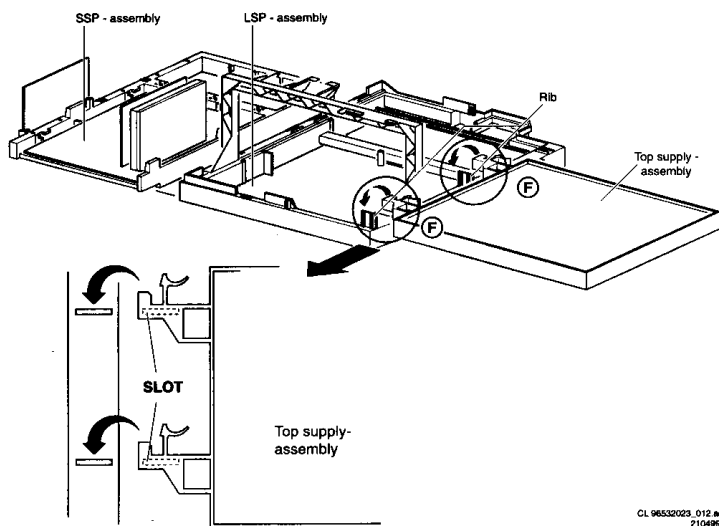

Figure 4-12
4. The copper side of the Supply panel with its service test points is available now. (see figure 4-12)